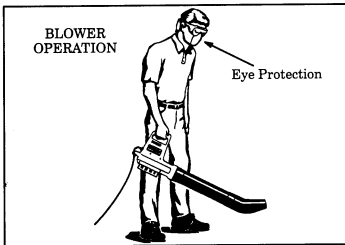

Figure 4
11. **Use the correct operating position.** Figure 4. Do not overreach or use from unstable surfaces such as ladders, trees, steep slopes, roof tops, etc. Keep firm footing and balance at all times.